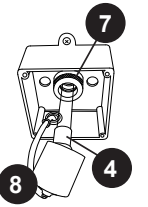
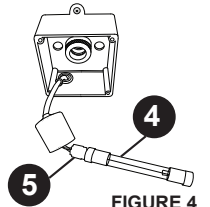
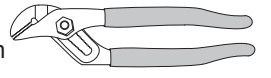
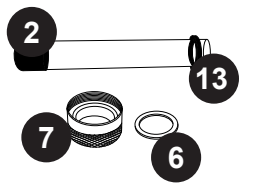

FIGURE 3
FIGURE 4
FIGURE 5
FIGURE 6
3. Remove the black lamp boot (8) by sliding it over the cable away from the quartz seal compression nut (7), Figure 3.
4. Slowly remove the UV lamp (4) out of the quartz tube.
5. Remove lamp socket (5) from the UV lamp (4), Figure 4.
6. Remove the quartz seal compression nut (7) by turning it **counterclockwise**, Figure 3. Use a pair of channel-lock pliers if needed, Figure 5. You will notice that there is a stainless steel compression washer (6) which slides over the quartz tube, save the washer (6) for later use, Figure 6. There is also a black seal ring (13), grasp the black seal ring, slowly and carefully remove the quartz tube.
7. Now you are ready to clean or replace the quartz tube (2). For the cleaning quartz tube (2), follow steps 8 and 9 then proceed from step 10. For replacing quartz tube (2), skip steps 8 and 9 and proceed from step 10.
17. Slide the new UV lamp (4) back inside the quartz tube, Figure 3.
18. Reinstall the black lamp boot (8) back over the quartz seal compression nut (7).
19. Reinstall the enclosure cover (10) with gasket (9) and secure with the screws.